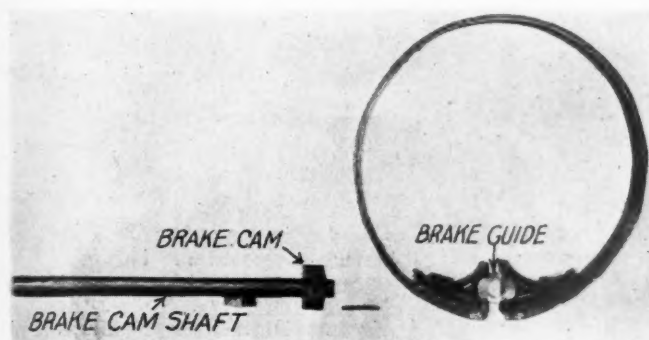

Fig. 7. The Internal Brake is Easily Removed by Displacing Cotter Pin From Cam End of Cam Shaft and Slipping Off the Band.
**Removing Internal Brakes**—Remove cotter pin from cam end of brake cam-shaft and slip off band. See Fig. 7, showing complete disassembly.